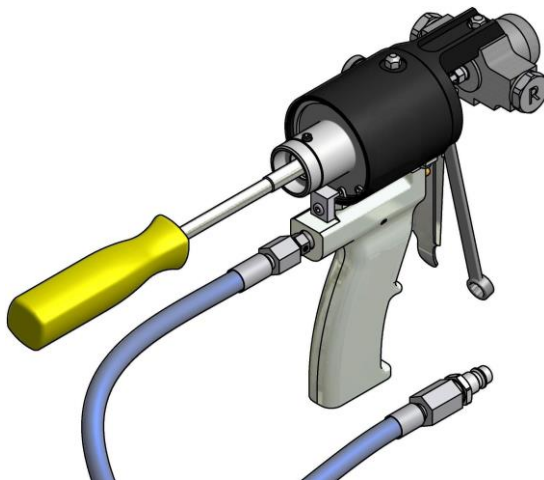
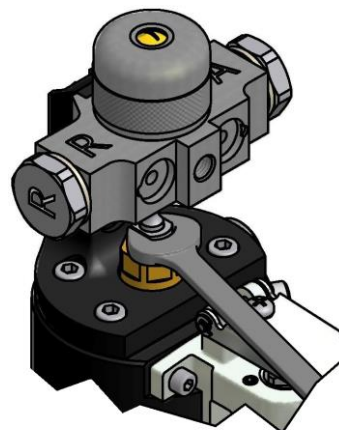

Figure. 14
Figure. 15
4. Insert the end of the socket wrench into the hexagon of the needle and insert a socket in the hexagon of the plunger shaft to prevent it from turning (see **Figure. 14** and **Figure. 15**). Turn anti-clockwise until the needle is completely removed from its housing.
16. Insert the tip of the socket wrench into the hexagon of the nut and insert a socket in the hexagon of the plunger shaft to prevent it from turning. Turn anti-clockwise until the needle is completely unscrewed from its housing (see **Figure. 14** and **Figure. 15** page 15).